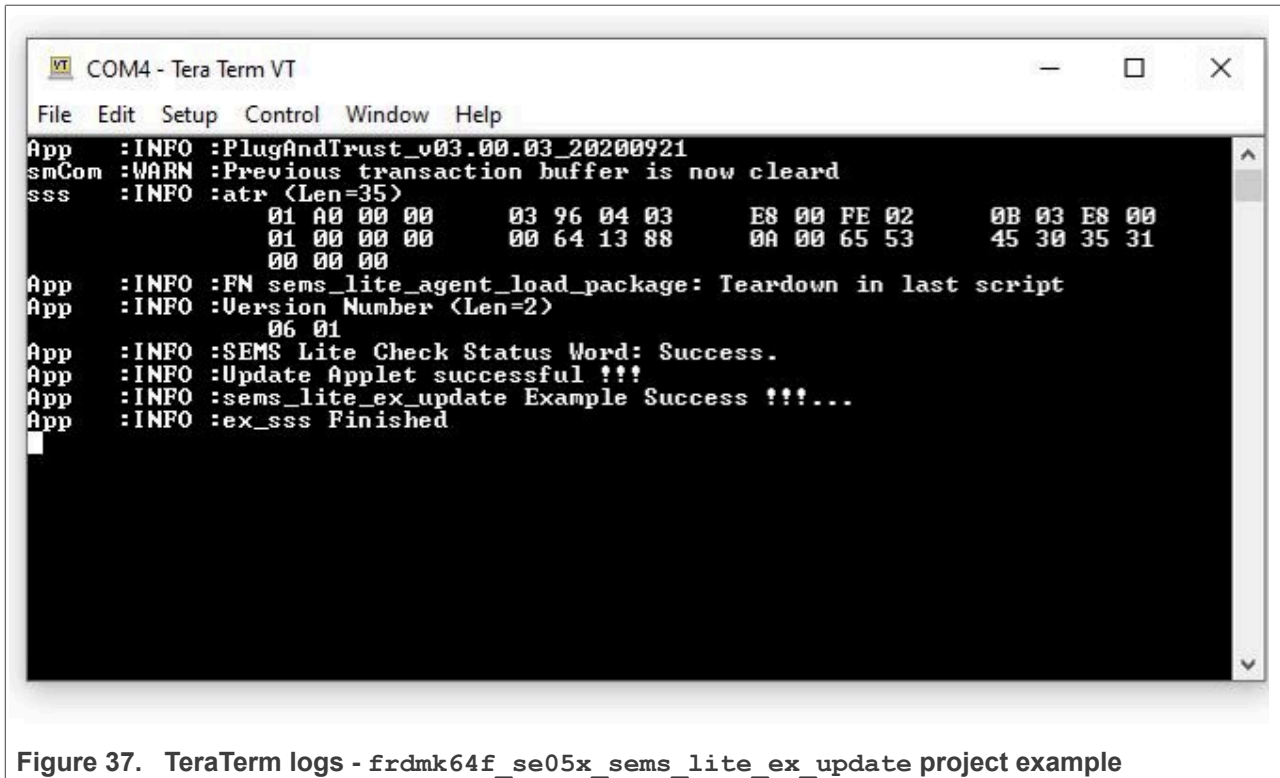

Figure 37. TeraTerm logs - frdmk64f\_se05x\_sems\_lite\_ex\_update project example
6. Once the program execution continues, logs are printed in the terminal application. If the `frdmk64f_se05x_sems_lite_ex_update` project runs successfully, you should see the *"Update Applet successful"* message in the logs as show in Figure 37. The IoT applet has now been updated to a new version (in this screenshot to version 6.1).